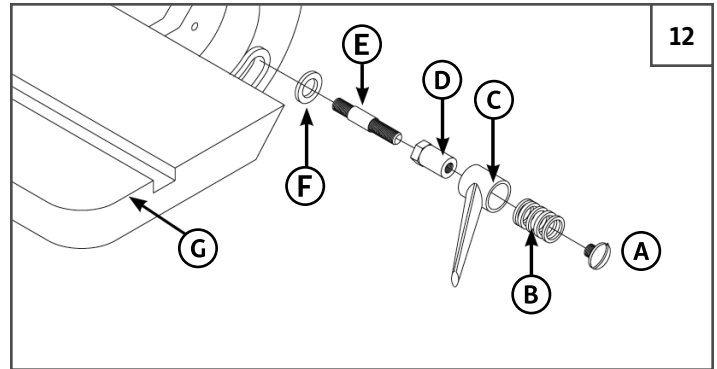
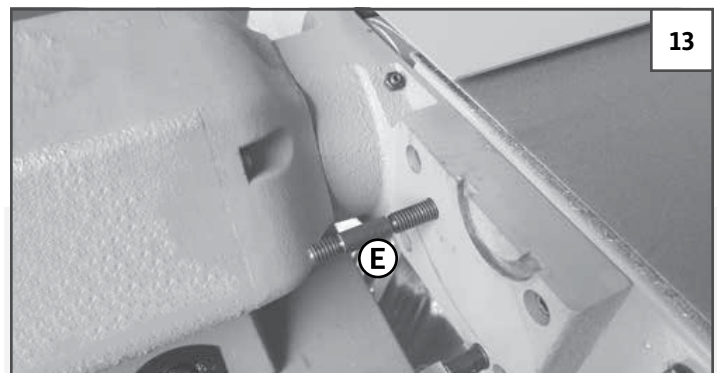
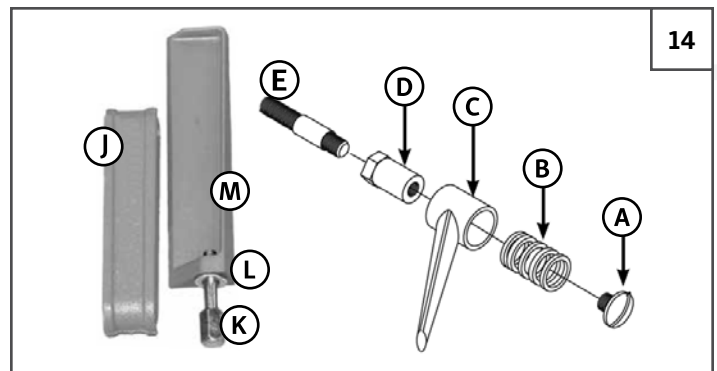
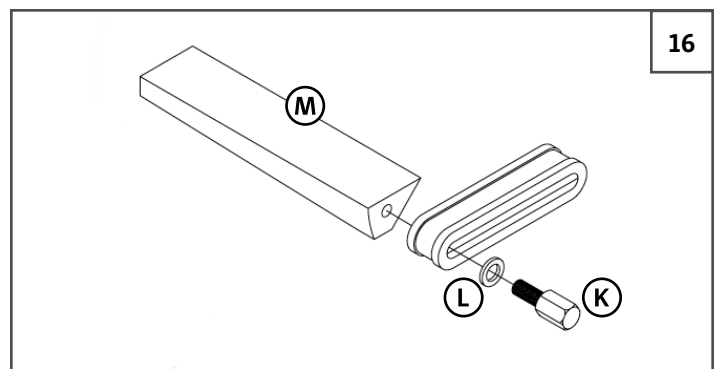

FIGURE 12: REMOVING SANDING BELT TABLE
FIGURE 13: INSTALLING BACKSTOP
FIGURE 14: INSTALLING BACKSTOP
FIGURE 16: INSTALLING BACKSTOP
2. Using a large flat head screwdriver, remove the **PAN HEAD SCREW (A)** on the table **LOCK LEVER (C)**. See Figure 12.
3. Remove **SPRING (B)**, **LOCK LEVER (C)** and **TOOTHED NUT (D)**.
4. Using a 10 mm open end wrench, loosen and remove the **STUD (E)**, then remove the **WASHER (F)** and **TABLE AND TRUNNION ASSEMBLY (G)**.
5. Reinstall the **WASHER (F)** and the **STUD (E)**. Make sure you thread the stud's **LONGER END** into the sanding head. See Figure 13. *Note: When reinstalling the table, thread the **SHORT END** of the stud into the sanding head.*
6. Reinstall the **TOOTHED NUT (D)** onto the **STUD (E)**.
7. Slide the **BACKSTOP HOLDER (J)** onto the **STUD (E)** and secure it by reinstalling and tightening the **LOCK LEVER (C)**, **SPRING (B)** and **PAN HEAD SCREW (A)**. See Figure 14.
8. Loosen and remove the **BOLT (K)** and **WASHER (L)** from the **BACKSTOP (M)**.
9. Place the **BACKSTOP (M)** against the **BACKSTOP HOLDER (J)** and secure it with the **WASHER (L)** and **BOLT (K)**. See Figure 16.